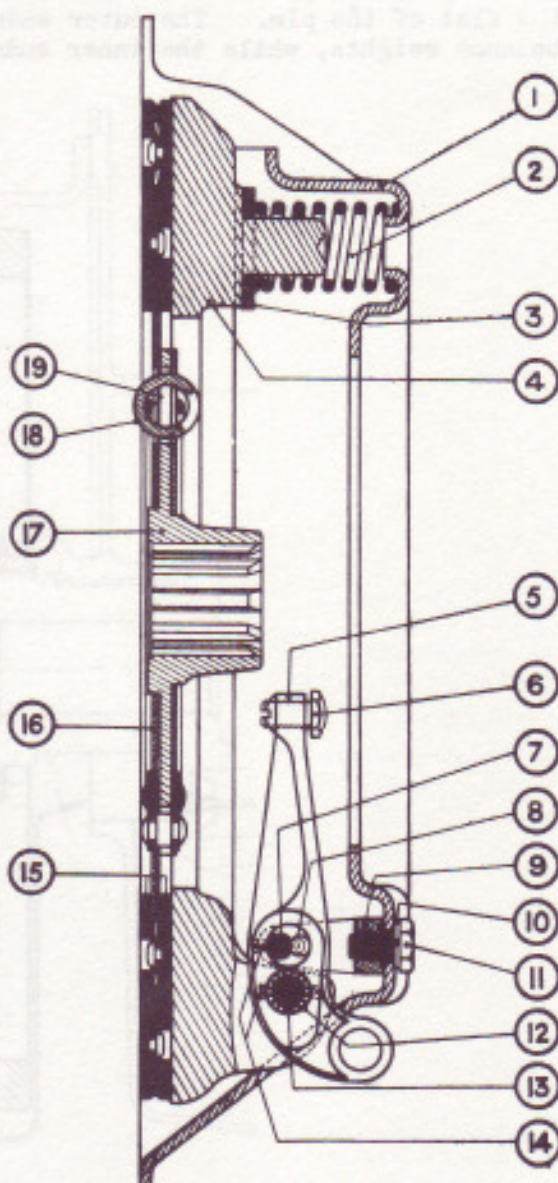
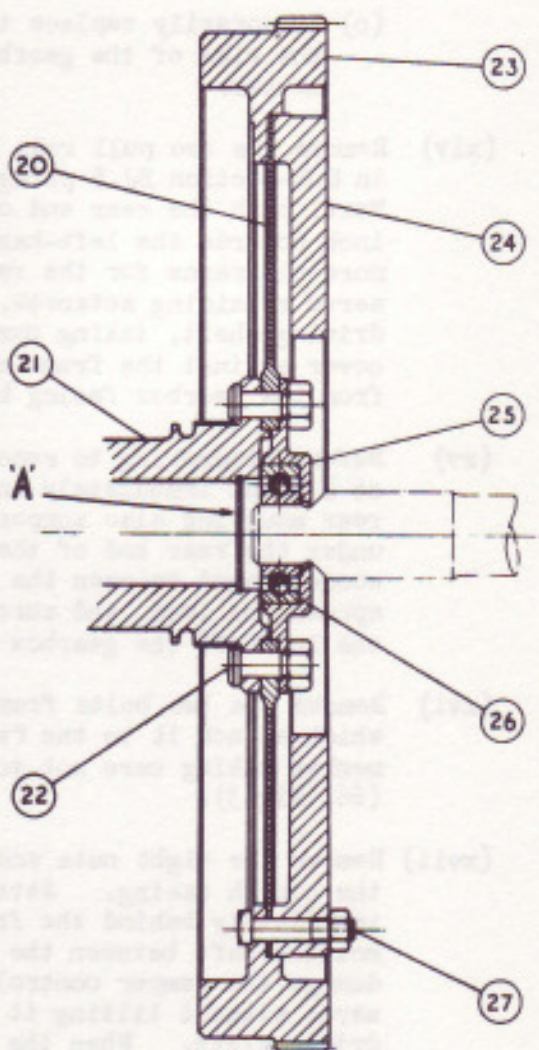

FIG. 1. SECTION THROUGH CLUTCH.
FIG. 4. SECTION THROUGH FLYWHEEL.
The driven plate assembly is of the flexible centre type in which the splined hub (17, Fig.1) is indirectly attached to the disc (16), and transmits the power and over-run through a number of driving springs (18) held in position by spring retainers (19). Two facings (15) are riveted to the disc.
The cover assembly consists of a pressed steel cover (1, Fig.1) and a cast iron pressure plate (4) loaded by nine thrust springs (2) which bed on insulator washers (3) positioned by projections formed on the pressure plate, three release levers (5) are mounted between forks formed on the pressure plate, and each lever is free to pivot on needle bearings (12) positioned by a release lever pin (13) which is secured by a split pin (14). Three release lever yokes (9) are assembled inside the cover and positioned by setscrews (11) and spring washers (10). Each yoke is forked, and the release lever is positioned in the fork by a pin (7) which bears on a roller (8) and is secured by a split pin (14). The pin is formed with a flat which registers with flats in the yoke and prevents the pin from turning, therefore the roller operates on the flat of the pin. The outer ends of the release levers are formed with balance weights, while the inner ends of the levers carry adjuster screws (6).
- (b) Weak thrust springs (2, Fig.1). If excessive slip is allowed to occur, the heat generated may tend to soften the springs and add to the trouble, although a heat insulator washer (3, Fig.1) is interposed between each spring and the pressure plate.
- (d) Scored pressure plate (4, Fig 1) or scored friction plate (24, Fig.4) or both scored.
It should be noted where one or possibly two springs are below this figure and that the remainder are satisfactory, the total pressure may still be sufficient to prevent slip, but withdrawal of the pressure plate (4, Fig.1) may be uneven and give rise to shudder upon re-engagement. An accurate spring tester should be used when testing springs.
(b) Incorrect setting of the three adjusting screws (6, Fig.1) of the release levers.
(c) Driving spring/s (18, Fig.1) of driven plate broken or weak thus reducing torsional flexibility of the driven plate.
(c) Incorrect setting of the three adjusting screws (6, Fig.1) of the release levers.
Cause: Driving spring/s (18, Fig.1) of driven plate broken or weak.
- (ii) Turn flywheel, until one of the three bolts (27, Fig.4), which retain the friction plate (24) to the flywheel (23), is at the lowest position. (Do not confuse these bolts with the six which
During the initial build of a clutch, the three adjusting screws are adjusted so that the hemispherical head of each screw is 2.062" (52.38 m/m) + or - 0.030" (0.76 m/m) from the face of the friction plate (24, Fig.4) of the flywheel, with a maximum allowable difference in the height of the screws of less than 0.005" (0.127 m/m).
After a considerable mileage has been covered or should the clutch have been subjected to harsh treatment, the friction plate (24, Fig.4) and the pressure plate (4, Fig.1) of the cover assembly may be found to be scored, and there may also be evidence of contraction-cracks on the friction surface, i.e. small hair-line surface cracks.
It should be noted when re-assembling the friction plate to the flywheel, that one of the three holes in the friction plate, flexible disc (20, Fig.4) and the flywheel through which the bolts (27) are fitted, is offset by 1°, therefore there is no need to mark them for co-relation purposes.
- (i) Remove the remaining two bolts (27, Fig.4); before removing a bolt, turn the flywheel until the bolt is at its lowest position, but do not turn the engine until it has been removed, in order to prevent the possibility of the bolt head jamming against the clutch casing. Similar precautions must be taken when replacing the bolts.
- (ii) Remove friction plate from flywheel, leaving the latter suspended on the flexible disc (20). If necessary, the first few threads of the bolts can be cleaned up with a 0.3125" diameter 22 T.P.I. (R.H.) B.S.F. die. When re-assembling friction plate to flywheel, three new nuts should be fitted if necessary.
- (iii) Line up the 1° offset hole in the flywheel, flexible disc and the friction plate and refit two bolts (27), the third being refitted after the re-assembling of the clutch to the flywheel, the three nuts should then be fully tightened, and the bolts re-centre punched in two places to lock the nuts.
- (iii) Turn the flywheel until the hole from which one of the bolts (27, Fig.4) was removed, is at the lowest position.